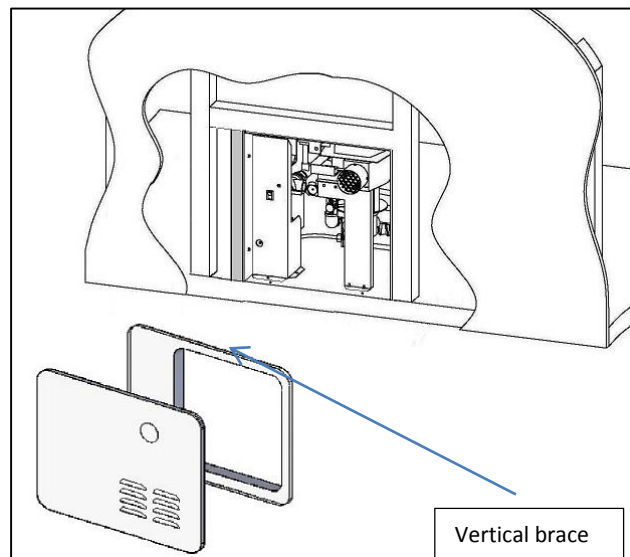

Fig. 1
The existing cut out for a 6 gal Atwood water heater measures 16 1/4" (W) by 12 5/8" (H). The cut out needed for your GSWH-2 is only 13" by 13" and its flange **MUST** be supported on all sides by a wooden frame so that it may be mounted rigidly with #8 3/4" flat head screws. The flange will fit vertically into the existing opening, but a horizontal gap of 3 1/2" will be left between the new flange and the side of the opening. A properly cut piece of 2" by 2" must be added as a vertical brace located at 13" from the right edge of the cut out. (See Fig. 1)